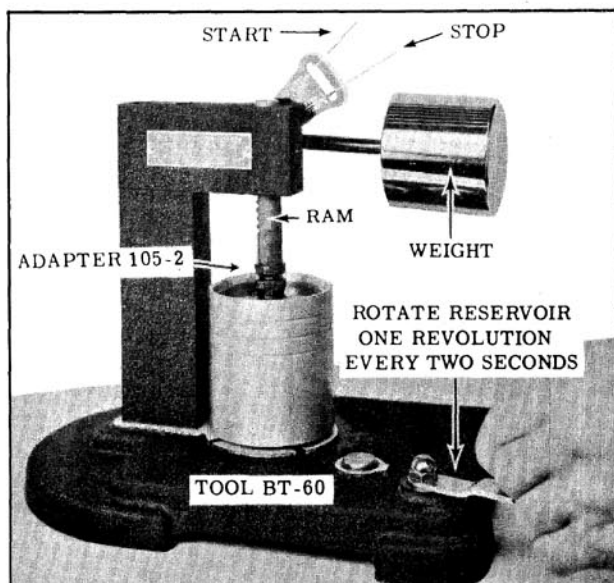

Fig. 3-59 Valve Lifter Bleed Down Test
12. Raise arm, then start test by resting ram on steel ball. Rotate reservoir one revolution every two seconds and time the indicator from the start to the stop line. (Fig. 3-59) Allowable leak-down rate is 6 seconds minimum for used lefters, and 9 to 60 seconds for new lifters.